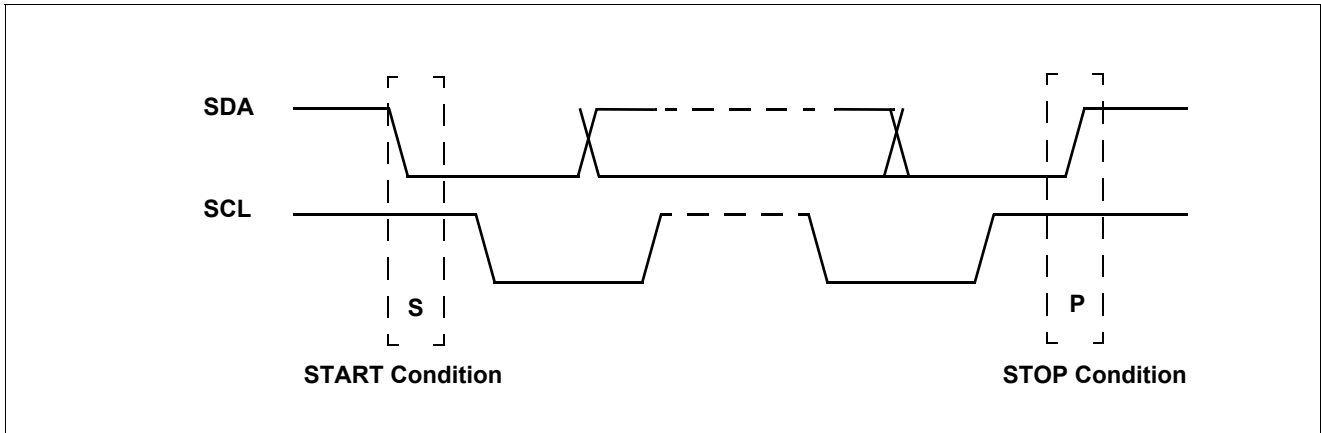

Figure 20-3 Start and Stop condition
Within the procedure of the I²C-bus, unique situations arise which are defined as START (S) and STOP (P) conditions (see Figure 20-3). A HIGH to LOW transition on the SDA line while SCL is HIGH is one such unique case. This situation indicates a START condition. A LOW to HIGH transition on the SDA line while SCL is HIGH defines a STOP condition. START and STOP conditions are always generated by the master. The bus is considered to be busy after the START condition. The bus is considered to be free again a certain time after the STOP condition. The bus stays busy